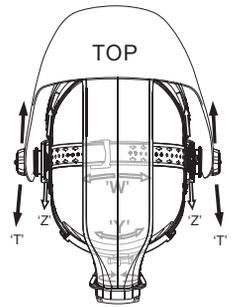

fig.6
or smaller by rotating the knob on the back of the headband. (See adjustment "Y" in fig.6). This can be done while wearing the helmet and allows just the right tension to be set to keep the helmet firmly on the head without it being too tight.
- If the headband is riding too high or too low on your head, adjust the strap which passes over the top of your head. To do this release the end of the band by pushing the locking pin out of the hole in the band. Slide the two portions of the band to a greater or lesser width as required and push the locking pin through the nearest hole. (See adjustment "W" in fig.6).
Step 1: Undo the block nut (See "T" in fig.6) to adjust the distance between the helmet and your face in the down position.
Step 2: Loosen the block nut on either side of the helmet and slide it nearer or further from your face. (See adjustment "Z" in fig.6). It is important that your eyes are each the same distance from the lens. Otherwise the darkening effect may appear uneven.